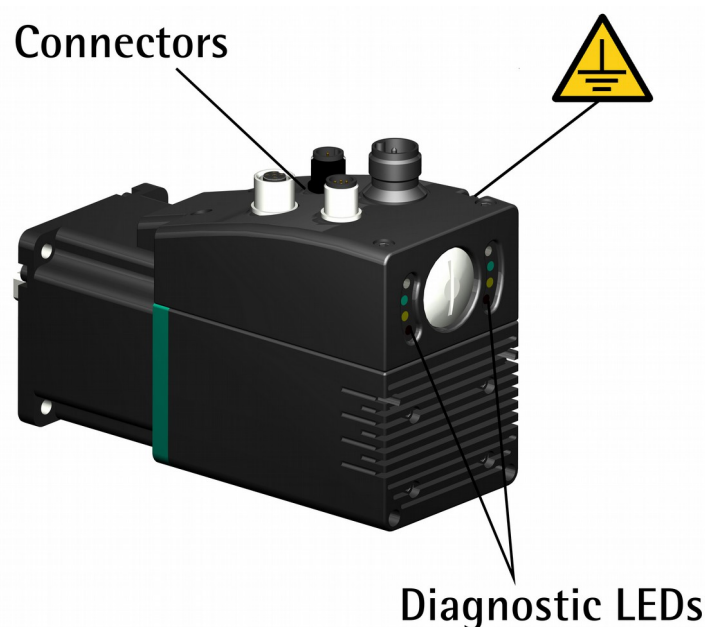
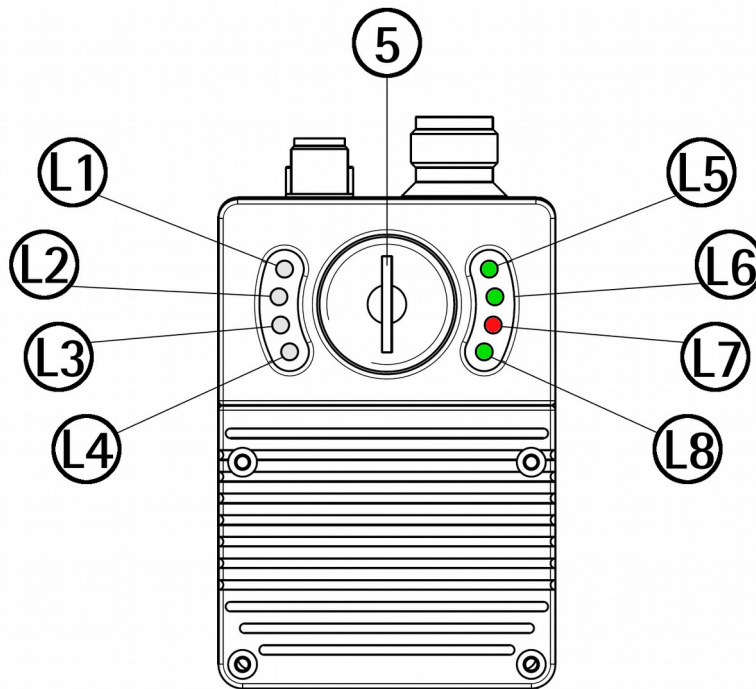

Figure 4: Connectors and diagnostic LEDs
Figure 6: Diagnostic LEDs
4.2 Connectors (Figure 4 and Figure 5)
4.3 Diagnostic LEDs (Figure 4 and Figure 6)
4.4 DIP switches (Figure 4 and Figure 6)
To access the DIP switches unscrew and pull out the screw plug 5 (Figure 6) in the back of the enclosure. Be careful to replace the screw plug at the end of the operation.